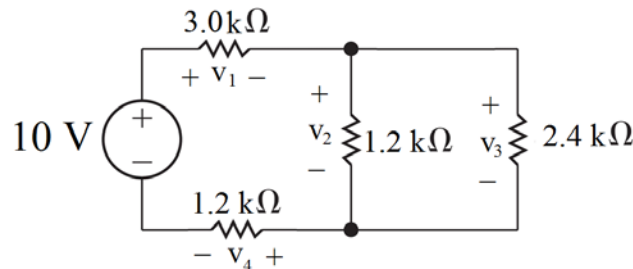

Figure 2: Voltage Divider Circuit
2. Use the voltage divider to find the voltage across the 4 resistors in the circuit in Figure 2.